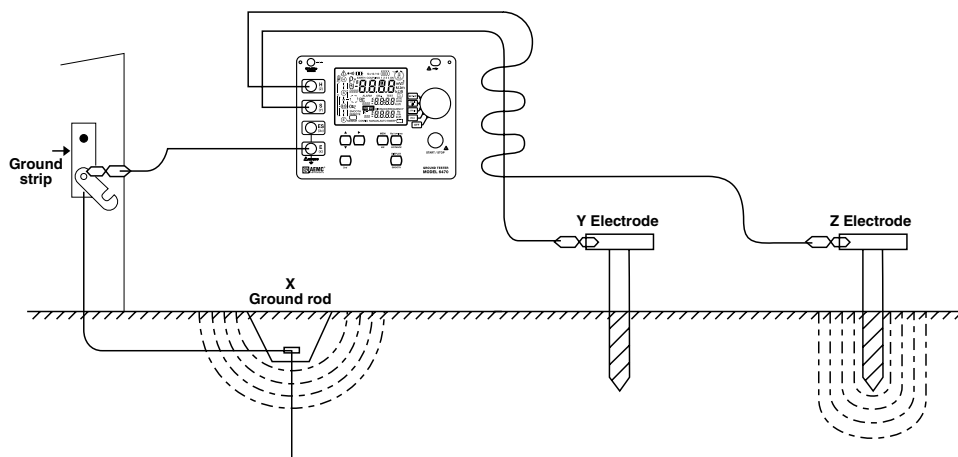

Figure 21
- A) Braid the auxiliary cables together. This often has the effect of canceling out the common mode voltages between these two conductors. (Figure 21)